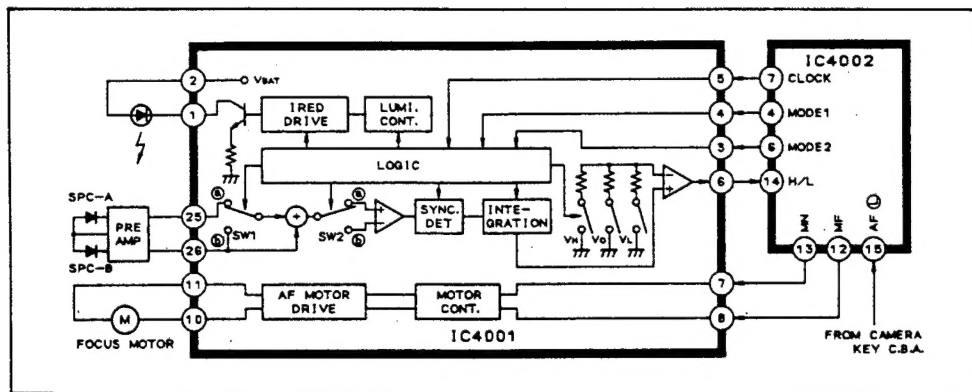

Fig. I-6
## ② Mode transition (Refer to Fig. I-6)